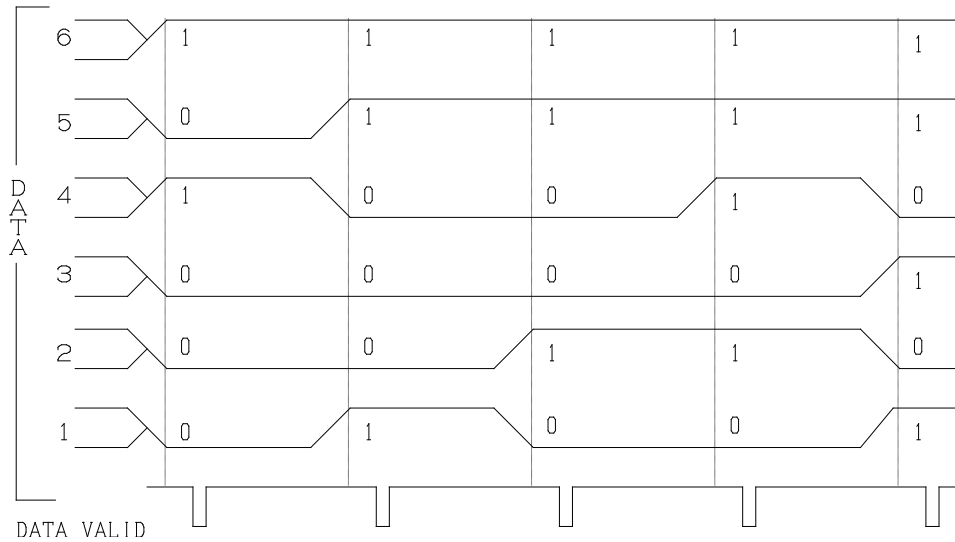

Fig. 10
- As shown in Fig. 10, set the data for 12.5 from the code table and send DATA VALID for at least 1ms.